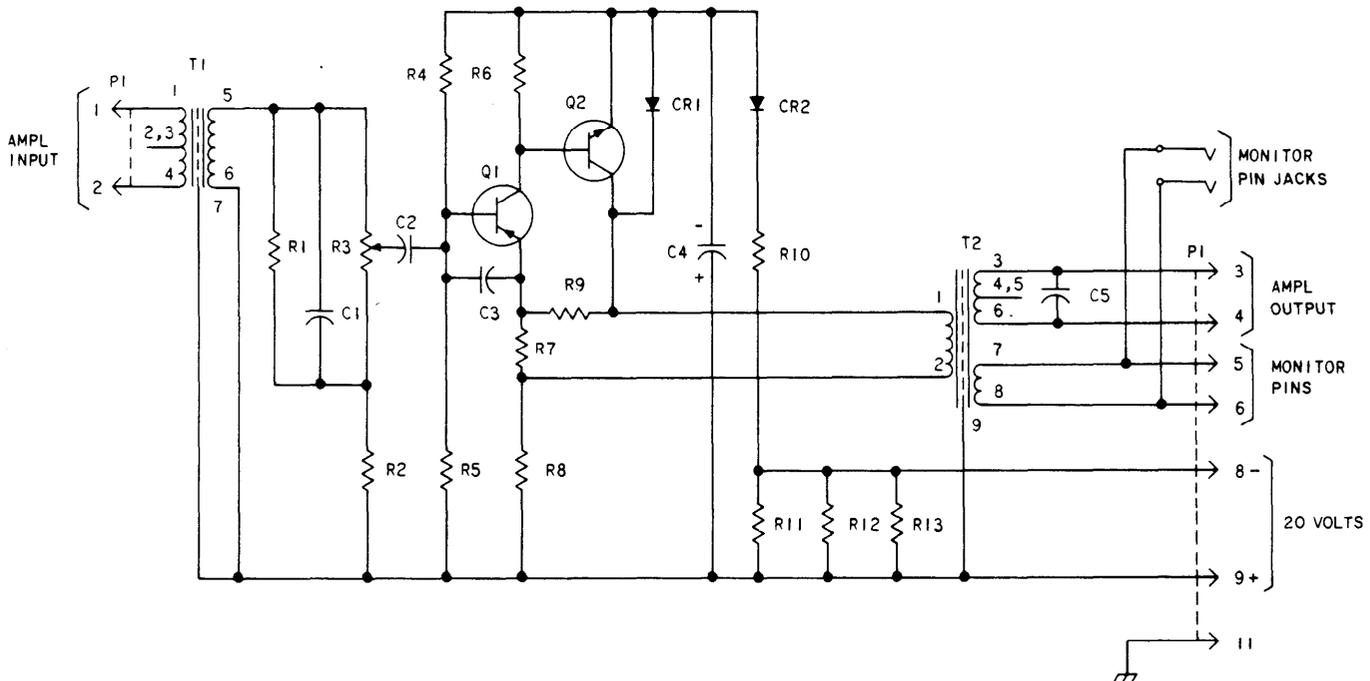

Fig. 2—KS-20378 Amplifier—Schematic Diagram
3.01 The KS-20378 amplifier schematic is shown in Fig. 2. The circuit consists of two transistors, input and output transformers, a gain control potentiometer, resistor, capacitors, diodes, and monitoring jacks.